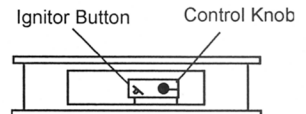

Figure 18 - Control Knob and Ignitor Button Location
4. Wait five (5) minutes to clear out any gas. Then smell for gas, including near the floor. If you smell gas, STOP! Follow "B" in the safety information, on left. If you don't smell gas, go to the next step.
5. Turn control knob counterclockwise ↻ to the PILOT position. Press in control knob for five (5) seconds (see Figure 18).